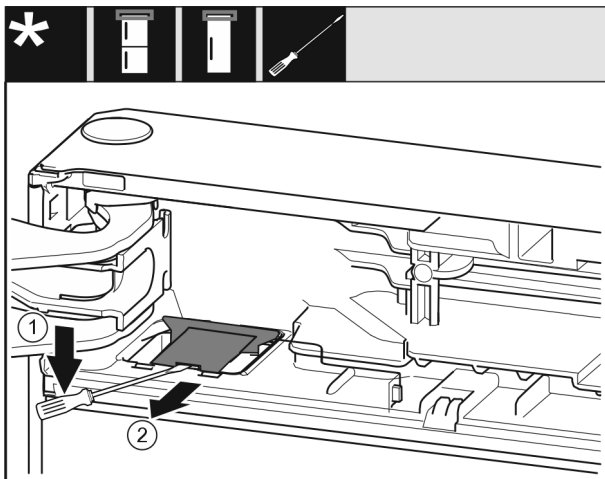

Fig. 12
- Use a screwdriver to snap out the cover Fig. 12 (1).
- Pull out the cover Fig. 12 (2).